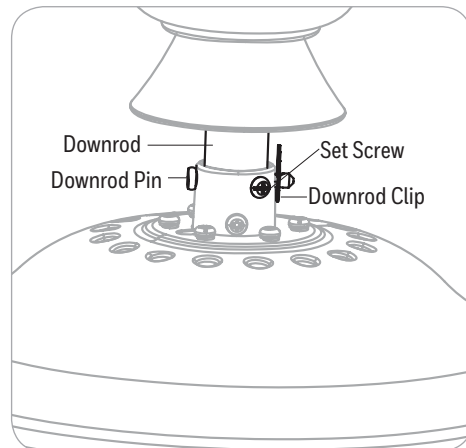

Figure 3.3
3. Slide the downrod into the yoke of the motor assembly. Align holes and reinstall the downrod pin and downrod clip and secure with the set screws (Figure 3.3).